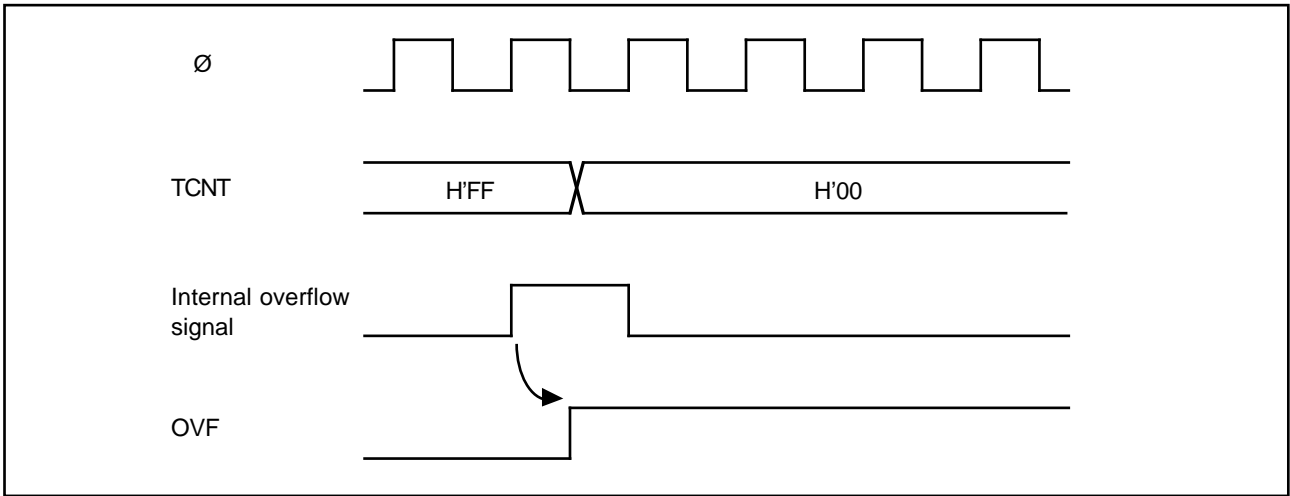

Figure 8-10. Setting of Overflow Flag (OVF)
(1) Setting of TCSR Overflow Flag (OVF): The overflow flag (OVF) is set to 1 when the timer count overflows (changes from $H'FF$ to $H'00$). Figure 8-10 shows the timing of this operation.